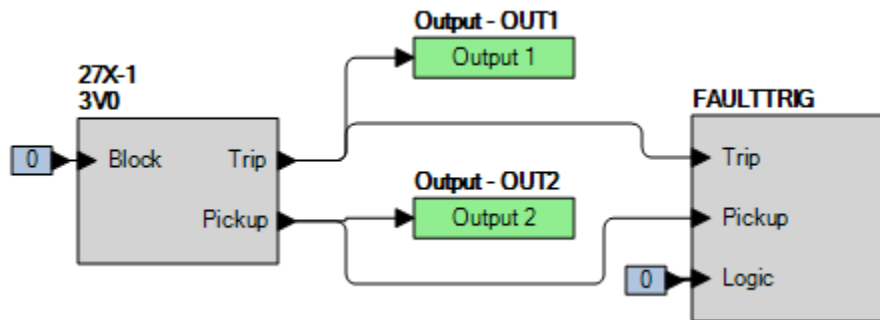

Figure 67-1. BESTlogicPlus Settings (3V0 Mode)
Step 2: Use BESTCOMSPPlus to configure the BESTlogicPlus programmable logic shown in Figure 67-1.
- Step 4: Prepare to monitor the 27X-1 function operation. Operation can be verified by monitoring OUT2 (see Figure 67-1).